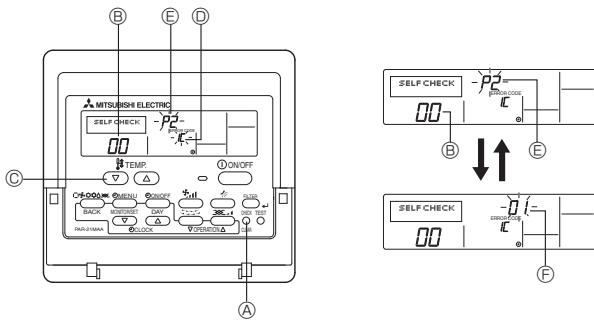

Fig. 9-3
9.3.1. Wired remote controller (Fig. 9-3)
- ① Turn on the power.
- ② Press the [CHECK] button twice.
- ③ Set refrigerant address with [TEMP] button if system control is used.
- ④ Press the [ON/OFF] button to stop the self-check.
- (A) CHECK button
- (B) Refrigerant address
- (C) TEMP. button
- (D) IC: Indoor unit
- (E) OC: Outdoor unit
- (F) Check code